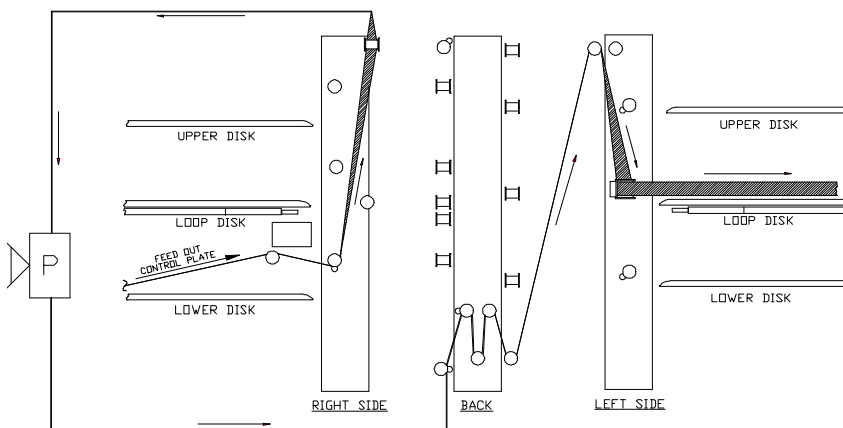

Figure 2
13. Thread the film from the bottom disk to the loop disk as shown in Fig. 2, Page 3. Allow a sufficient length of film at the output of the projector to return to and make two revolutions around the Make-Up Guides.